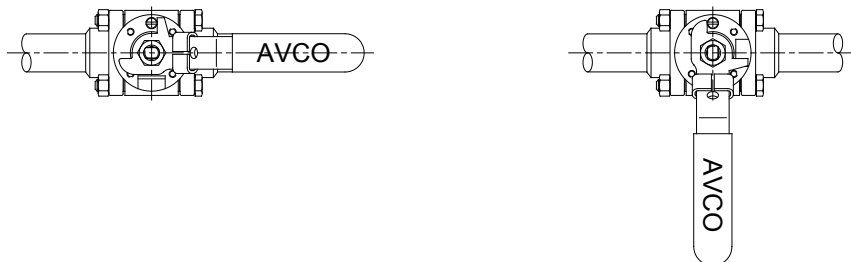

Fig. 3
- 4.3 The handle or lever gives visual indication (see fig. 3) as to whether the valve is in the open or closed position. If the handle/lever is in-line (parallel) with the pipeline, then the valve is open or if the handle/lever is perpendicular to (across) the pipeline, then the valve is closed.